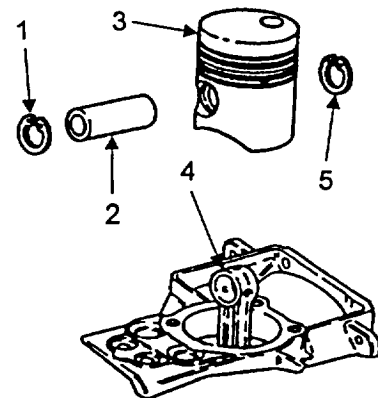

FIGURE 5-45. ASSEMBLE PISTON
d. Install new retaining ring (Figure 5-45, Item 1) in lip groove of piston (3) piston pin bore.
e. Insert connecting rod (Figure 5-45, Item 4) into bottom of piston (3). Make sure that opening of combustion chamber is on the flywheel side.
f. Insert wrist pin (2) into piston (3) wrist pin bore and through rod bushing of connecting rod (4). Push in wrist pin until it contacts installed retaining ring (1) and stops. Install retaining ring (5).